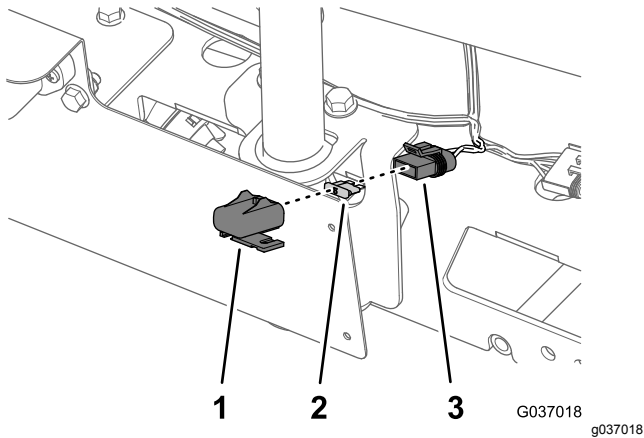

Figure 78
1. Remove the cover from the fuse socket (Figure 78).
2. Remove the open fuse (Figure 78).
3. Insert the new fuse into the socket until the fuse is fully seated (Figure 78).
4. Assemble the cover onto the fuse socket (Figure 78).